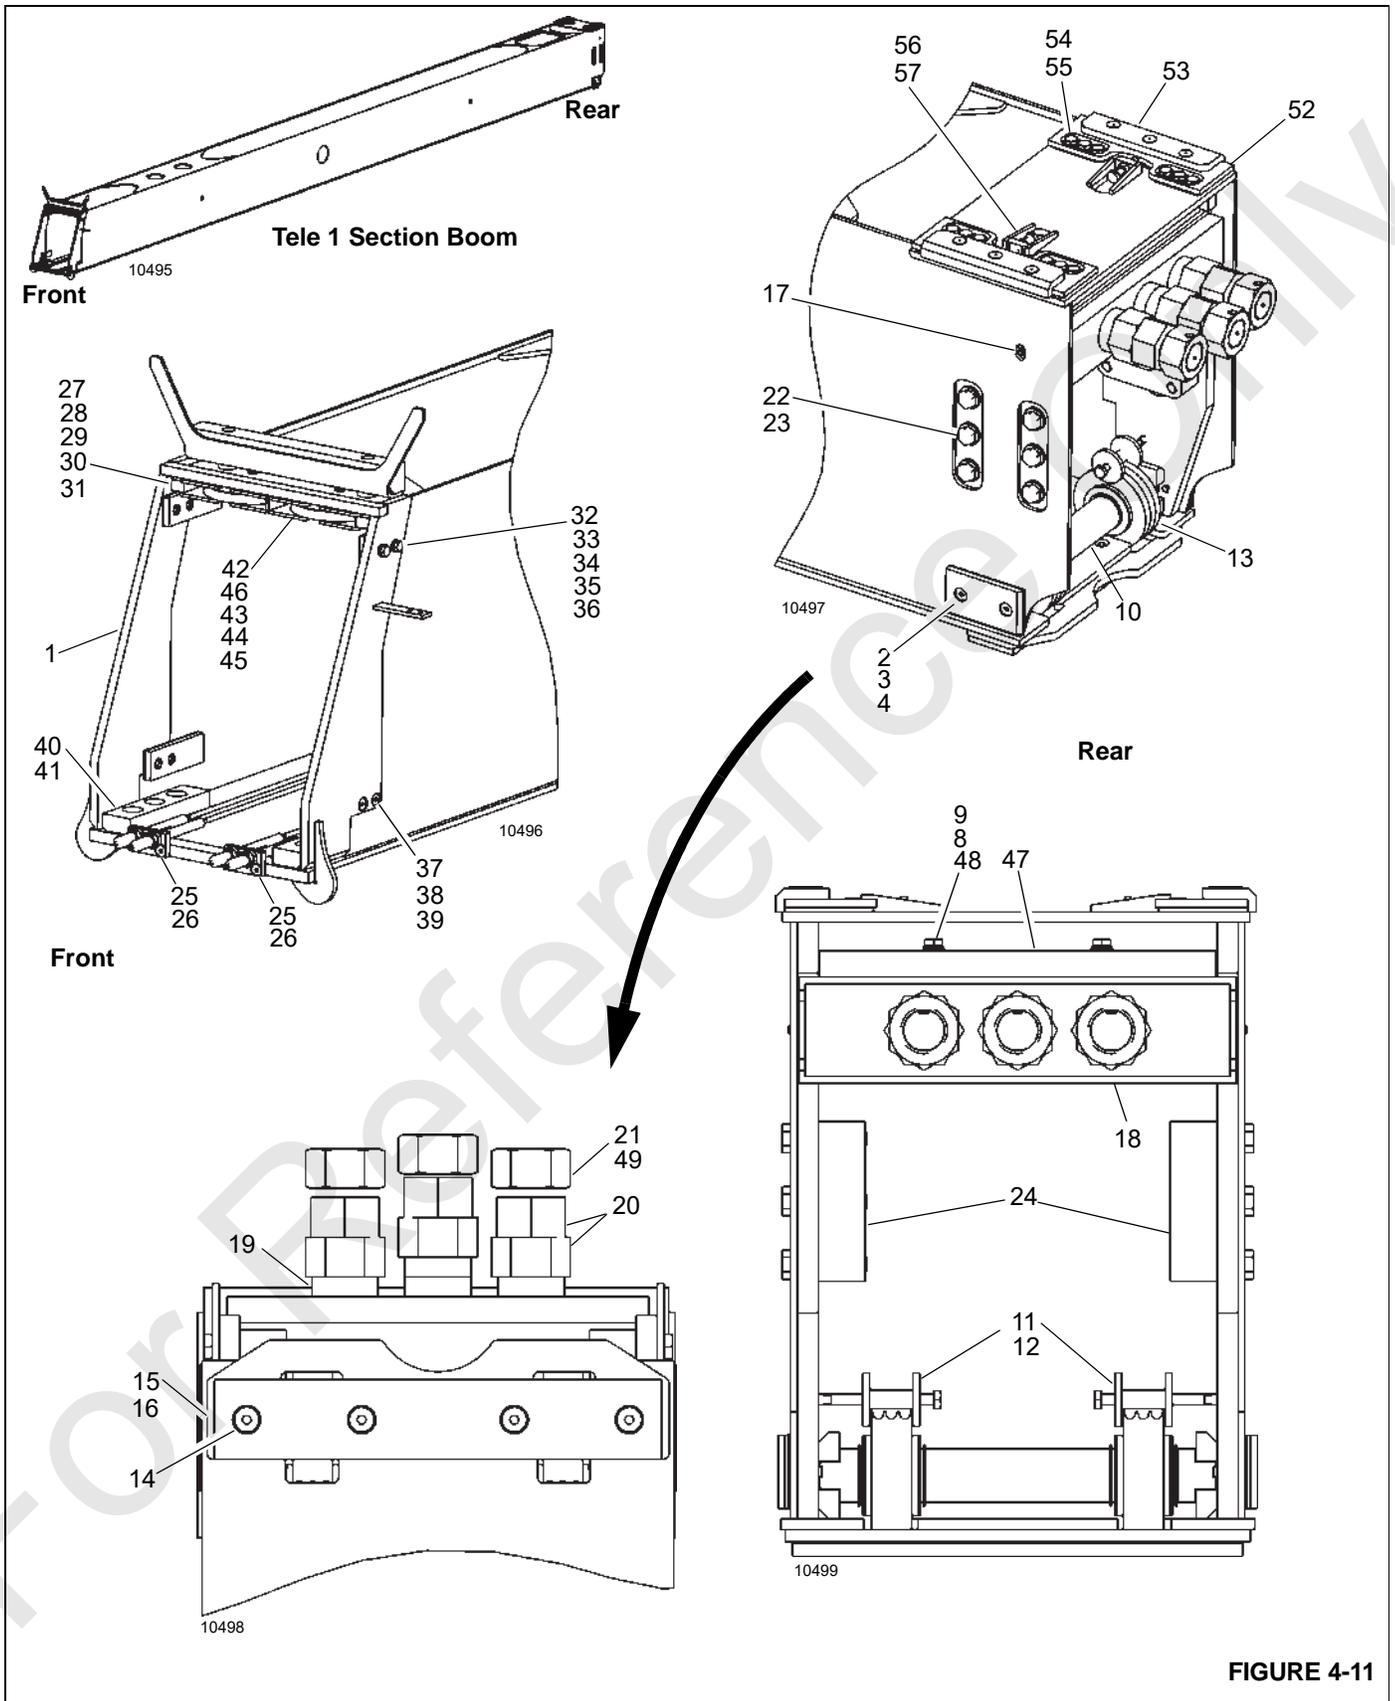
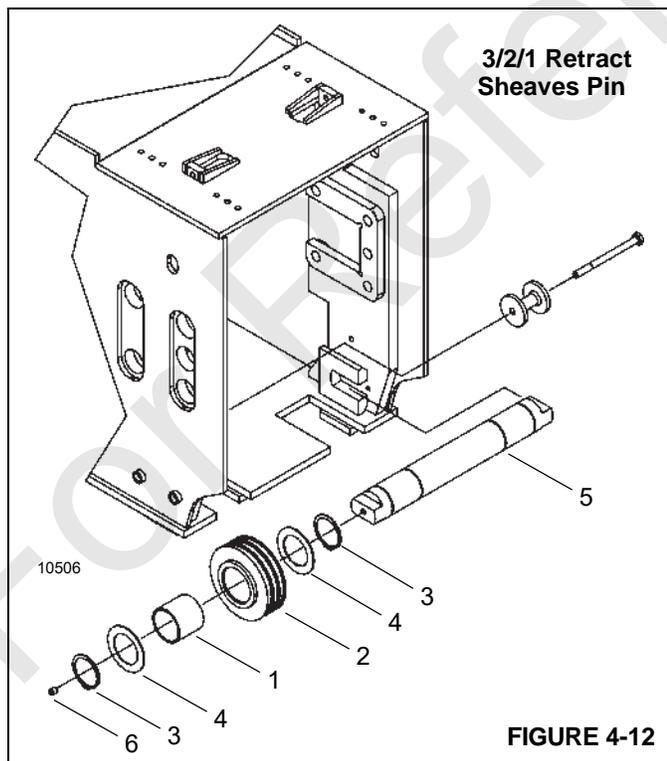
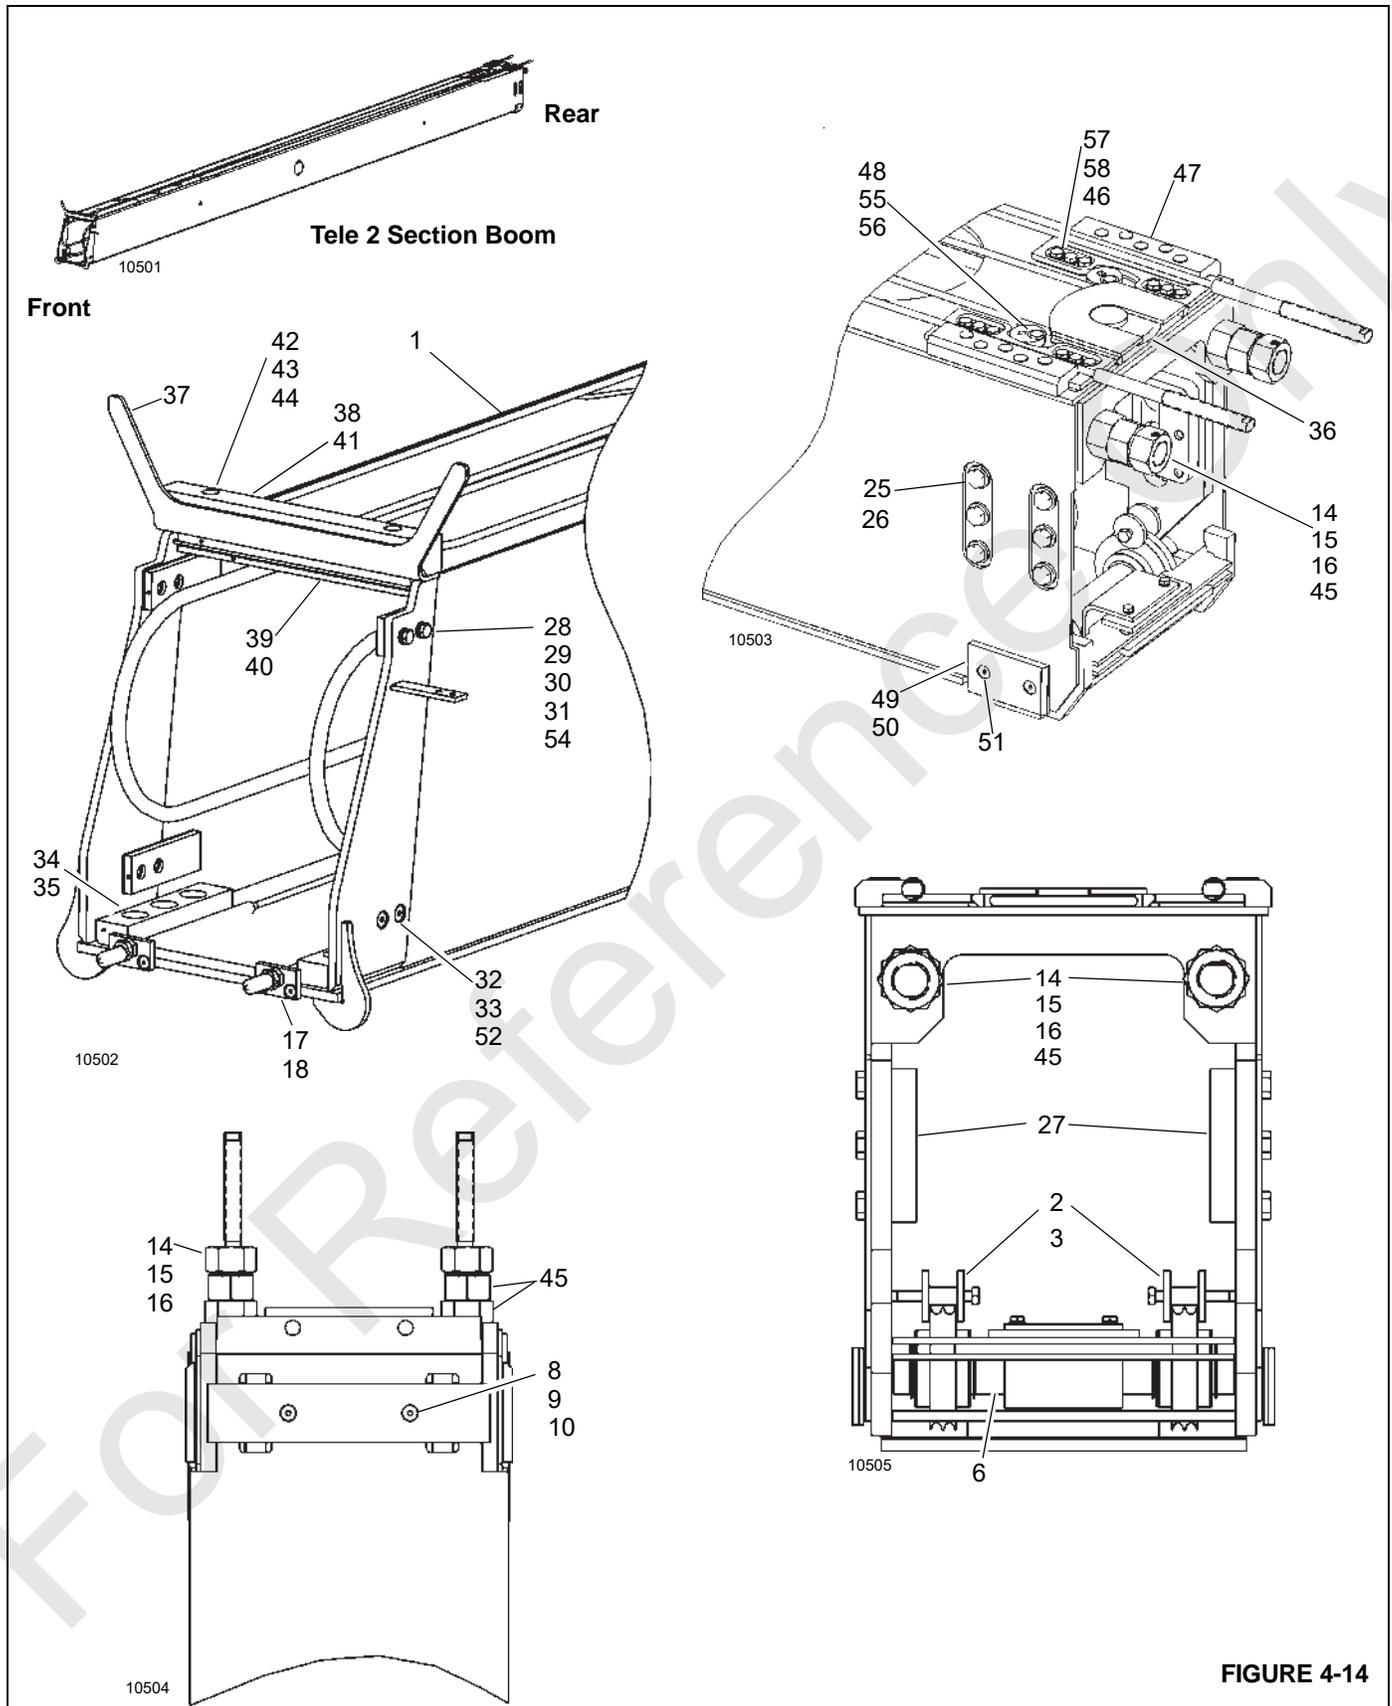

FIGURE 4-11
FIGURE 4-12
FIGURE 4-14
10. Through the access hole in the top rear of the Base section, remove adjustment screws (56, Figure 4-11) and nuts (57) from the top of Tele 1 section. Remove capscrews (54), washers (55), mounting plates (52), and wear pads (53).
Use the instructions in this section to the remove Tele 2, 3, and 4 boom sections from Tele 1 section boom (1, Figure 4-11).
FIGURE 4-11 continued
Table 4-2 Tele 1 Section Boom Figure 4-11 Item List
5. Disassemble the 3/2/1 retract cable pin (5, Figure 4-12) as follows:
- a. Remove snap rings (3) and washers (4).
- b. Remove 3/2/1 retract sheaves (2).
- c. Remove bearings (1) from 3/2/1 retract sheaves.
- d. Remove plugs (6).
6. Remove four capscrews (14, Figure 4-11), two shims (15), and wear pad (16) from bottom of Tele 1 section boom (1).
7. Remove sockethead capscrews (17) and extend cable anchor (18). Mark the location of the nuts that secure the 2/3/4 extend cables to the Tele 1 section boom base.
8. Remove nuts (21), hex nuts (20), spacers (19), set screws (49), and extend cable anchor assembly (18) from 2/3/4 extend cables.
9. Remove capscrews (22), washers (23), and trunnion plates (24).
10. Remove capscrews (25) and 4/3/2 retract cable anchors (26) from the front tip of Tele 1 section boom (1).
12. Remove and tag capscrews (27), washers (28), lockwashers (29), shims (30), and wear pads (31) from the top front of the Tele 1 boom section (1).
13. Remove and tag capscrews (32), washers (33), lockwashers (34), shims (35), and wear pads (36) from inside of the front sides of the Tele 1 section boom (1).
14. Remove and tag capscrews (37), shims (38), and wear pads (39) from inside of the front sides of the Tele 1 section boom (1).
15. Remove and tag capscrews (40) and wear pads (41) from inside of the front sides of the Tele 1 boom section (1).
16. Pull the synchronizing cable sheave case assembly (42) out from the top tip of the Tele 1 section boom (1) and let the sheave case and cables rest on the top of Tele 2 section boom.
Figure 4-14) back and remove. Pull the cable loop forward and remove from sheave keeper. Cable is now free at the rear of boom. Push the two sheaves forward and remove them from the synchronizing cable sheave case (42, Figure 4-11) atop the Tele 2 section boom. The cable loops may now be pulled back out of the sheave case and the synchronizing cable is free. Smooth out any burrs that may be present on the flat ends of the pins to eliminate sheave bearing damage and remove pins from tip sheaves (45).
Use the instructions in this section to remove the Tele 2 (1, Figure 4-14) and telescope cylinder (1, Figure 4-15) from Tele 3 and Tele 4.
1. Remove capscrews (2, Figure 4-14) and two cable roller guides (3).
2. Remove capscrews (8), shims (9), and wear pads (10) from the bottom of Tele 2 section boom (1).
3. Remove capscrews (11) and wear pad (12).
4. Remove 4/3/2 retract cable retainer (13), sheave pin (with sheaves) (6), and retract cables.
- a. Remove retaining rings (2) and washers (3).
- b. Remove 4/3/2 retract sheave pins (5)
- c. Remove bearings (4) from sheaves (5).
- d. Remove remaining retaining rings (2) and washers (3).
- e. Remove plugs (6).